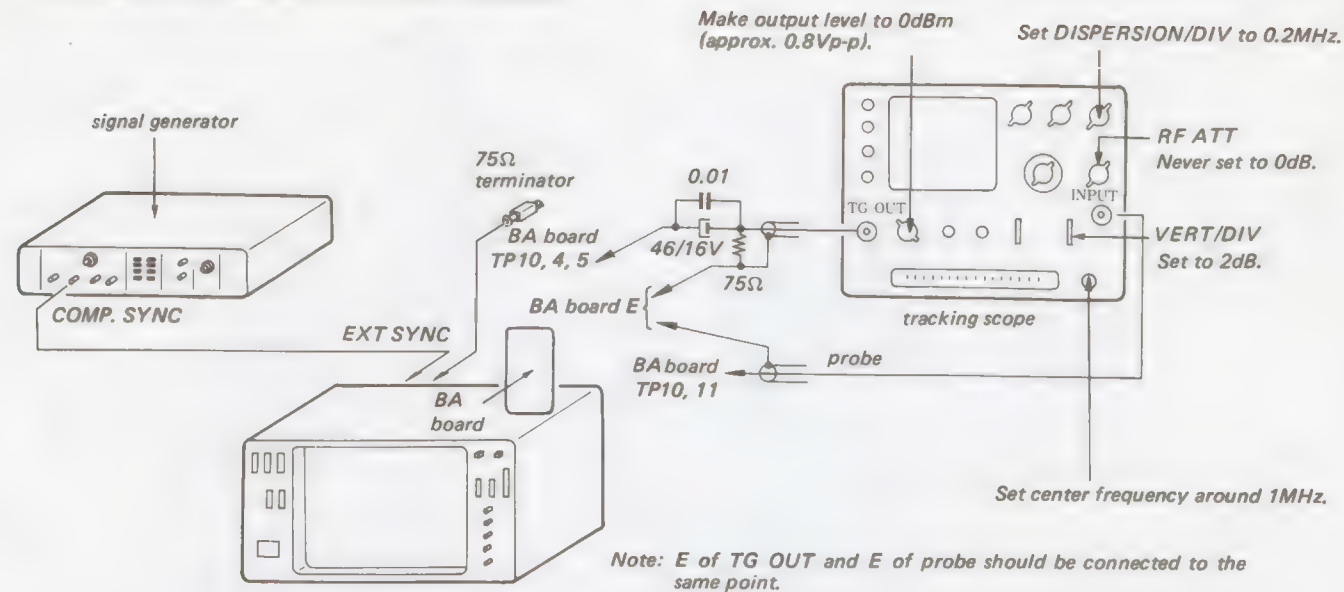

Fig. 5-45.
1. Complete the connections as shown in Fig. 5-45.
2. Connect the TG OUT of the tracking scope to TP 10 on the BA board via a capacitor and the probe also to TP 10. (See Fig. 5-45.)